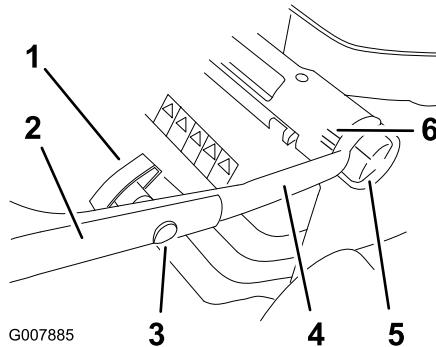

Figure 3
1. Loosen the handle height adjustment knobs and rotate the lower handle toward the rear of the lawn mower until it seats into one of the handle height settings as shown in Figure 3. To set the handle height, refer to Adjusting the Handle Height.
handle knobs as shown in Figure 3. Tighten the handle knobs securely.
You can set the handle to 3 height settings: high, medium, and low (Figure 3). Select the handle height setting most comfortable for you.